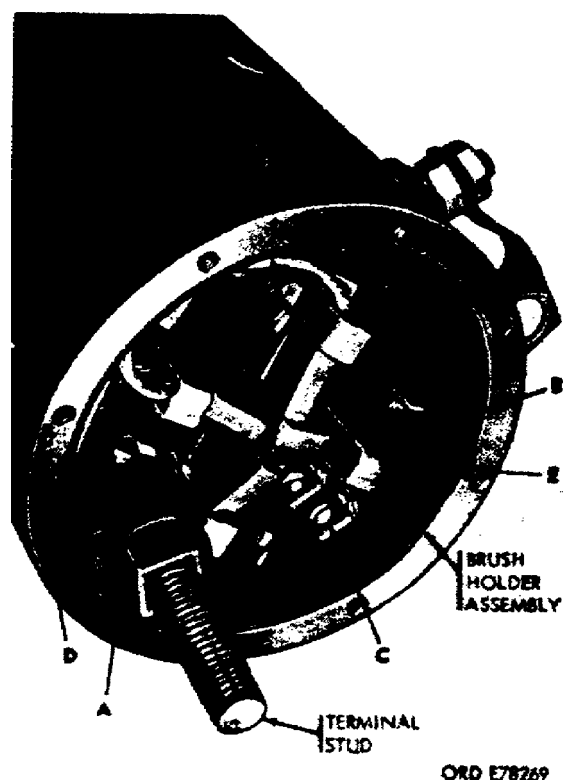

Figure 18. Brush holder assembly.
(2) Bend the metal locking taps outward, remove the hex-head capscrews, and then the commutator end head assembly.
g. To remove the brush holder assembly, take off the bushing and insulating washer from the terminal stud; then remove the insulation around the brush holder. Remove the roundhead screws and self-tapping screws securing the brush leads and holder. Take out the brush holder assembly (fig 18).